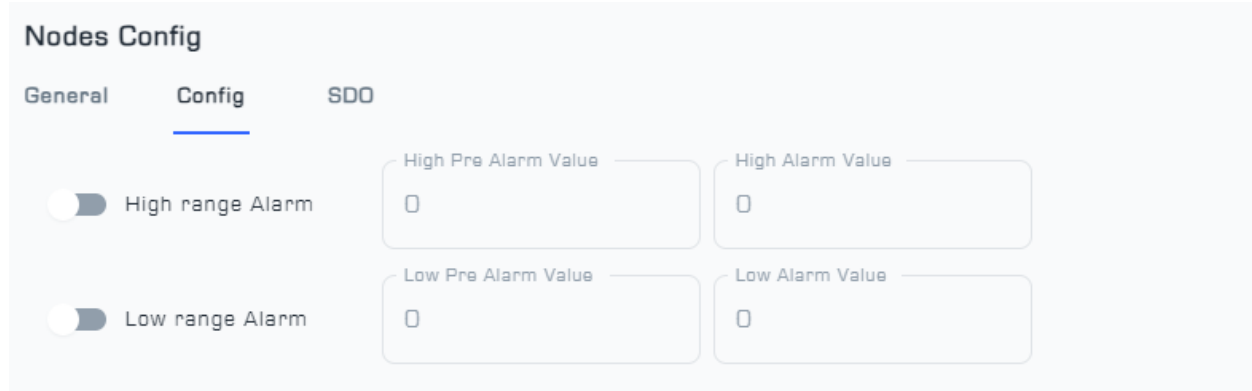

Figure 6: Config Menu from Node Config
- In the Config menu of the Single-Channel DC Voltage Node, as shown in Figure 6, the alarm settings of the Node can be configured. The High Alarm Value and High Pre-Alarm Value are related to setting the alarm and pre-alarm for the maximum danger value for the Node, and the Low Alarm Value and Low Pre-Alarm Value are related to setting the alarm and pre-alarm for the minimum danger value for the Node.